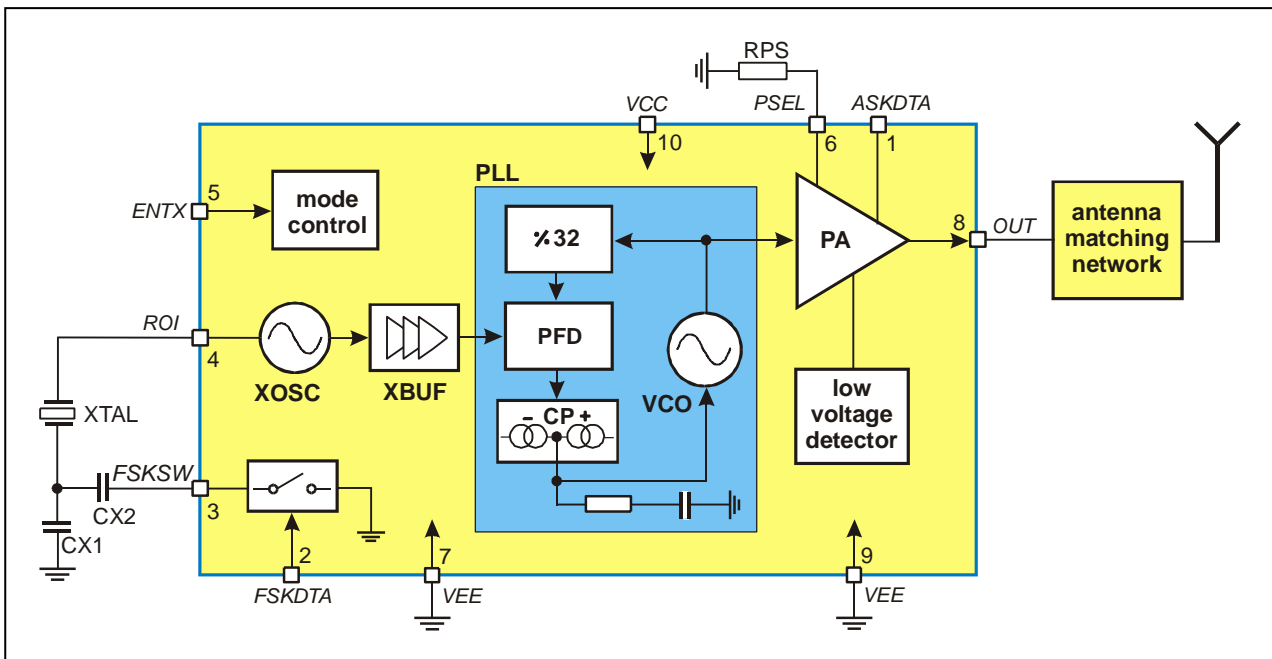

Fig. 1: Block diagram with external components
As depicted in Fig.1, the TH72015 transmitter consists of a fully integrated voltage-controlled oscillator (VCO), a divide-by-32 divider (div32), a phase-frequency detector (PFD) and a charge pump (CP). An internal loop filter determines the dynamic behavior of the PLL and suppresses reference spurious signals. A Colpitts crystal oscillator (XOSC) is used as the reference oscillator of a phase-locked loop (PLL) synthesizer. The VCO's output signal feeds the power amplifier (PA). The RF signal power  $P_{out}$  can be adjusted in four steps from  $P_{out} = -12$  dBm to +10 dBm, either by changing the value of resistor RPS or by varying the voltage  $V_{PS}$  at pin PSEL. The open-collector output (OUT) can be used either to directly drive a loop antenna or to be matched to a 50ohm load. Bandgap biasing ensures stable operation of the IC at a power supply range of 1.95 V to 5.5 V.